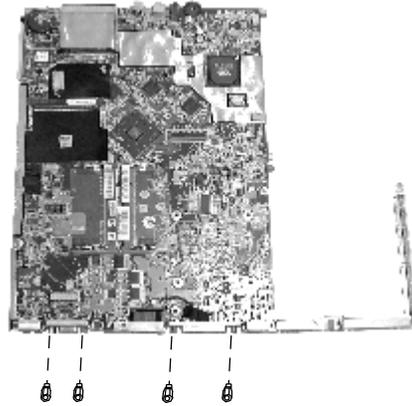

Figure 2-29 Remove four hex nuts
8. Remove four hex nuts beside the VGA ports. Now you can lift up system board from housing. (Figure 2-29)